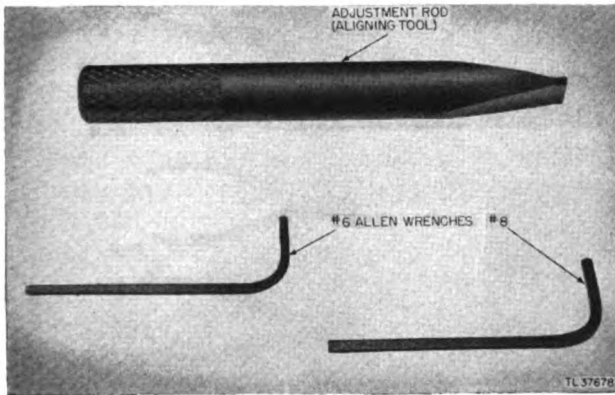

Figure 1. Tool kit No. 205-392.
a. **Tool Kit No. 205-392.** The tools listed below are supplied with Radio Equipment RC-150 in tool kit No. 205-392 (fig. 1) which is included in spare-parts chest CH-160. The kit will be found in a small envelope in the right-hand compartment of this chest.